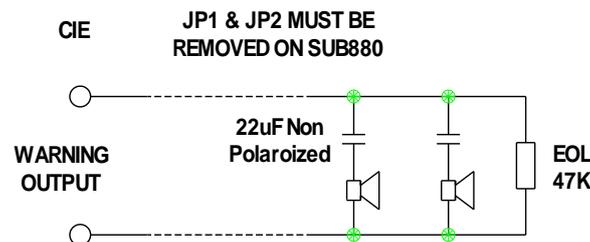
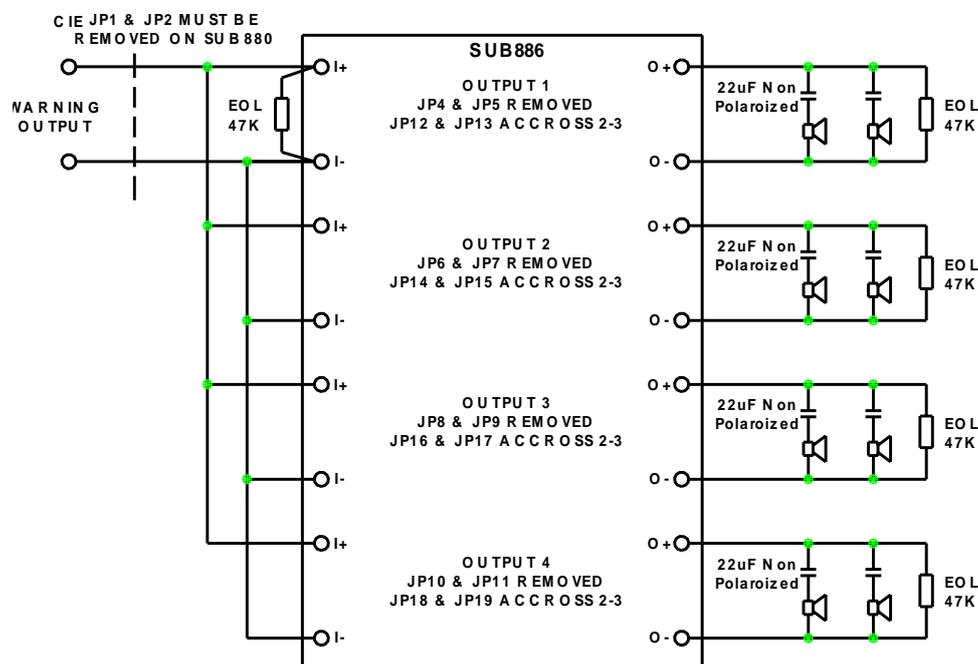
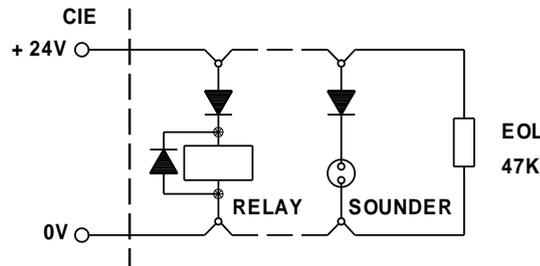

Figure 15 Typical Speaker Output Circuit
Figure 16 Speaker Zone Splitter Connection Diagram using SUB886
Figure 17 Typical Sounder or Relay Control Connection Diagram
The typical connection diagrams shown in Figure 15 and Figure 16 are used when supervised speaker circuit (S) is required and Figure 17 when 24V supervised output is required.
If the alarm devices output is used as a speaker output circuit, the speakers should then be connected to the warning output on the SUB880 as shown in the connection diagram in Figure 15.
A typical connection where the four outputs of SUB886 are used to split a single speaker output into 4 supervised speaker circuits is shown in Figure 16.
If the optional OWS is not used, the warning output may be utilised as a supervised 24VDC outputs to drive sounders, external relays, or to drive strobes as shown in the connection diagram in Figure 17. Check the jumper link settings respectively.
¹³ SUB886 can also be used to provide 4 x 24VDC supervised outputs driven from common alarm or independent zone alarm, refer to FT420 configuration software. Figure 16 can be used for voltage input / output instead of audio signal and wired as shown in Figure 17. Jumper setting must be set accordingly.